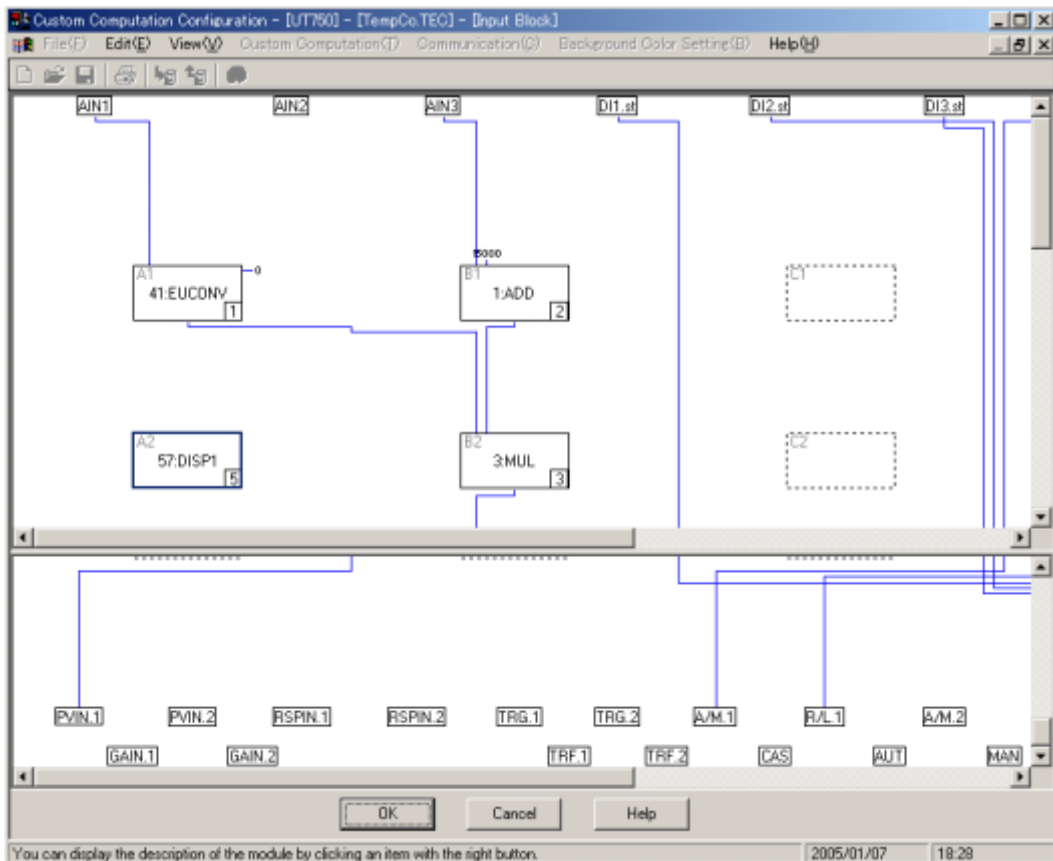

Figure 12.2.3 Example of the [Input Block] Dialog Box where the DISP1 Module Is Registered as the Fifth-run Module
- (2) Click the <Special Function> index.
- (3) Double-click <57: DISP1>. The DISP1 module is registered with the [Input Block] dialog box, as shown in Figure 12.2.3.